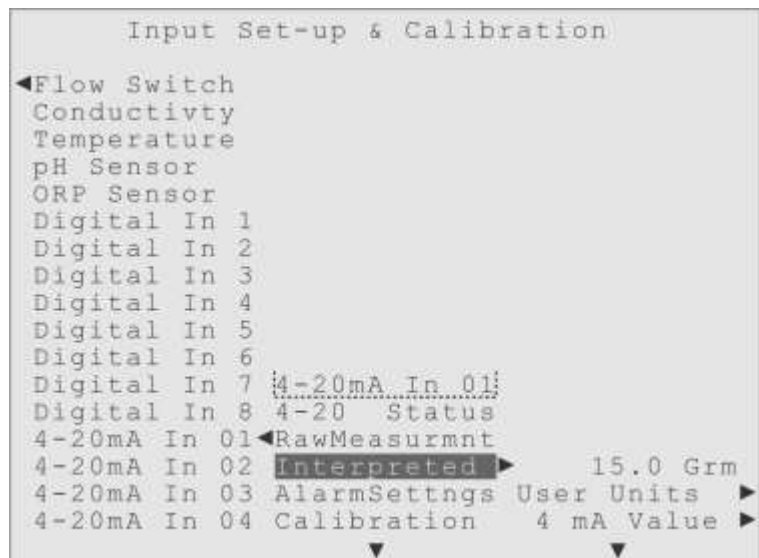

Figure 8-48. Highlight on the Interpreted Measurement menu, for 4-20mA In 01.
In this menu the user defines the value and the unit text. As shown in Figure 8-48, the 6.4 mA raw measurement has been interpreted by the user settings to indicate 15.0 Grm.
15.0 Grm: The first submenu item, displaying "15.0 Grm" in Figure 8-48, is the "live" calculated value for the Interpreted Measurement. It is not editable (no "input tray") but its value and units come from the settings made in the menus that follow.